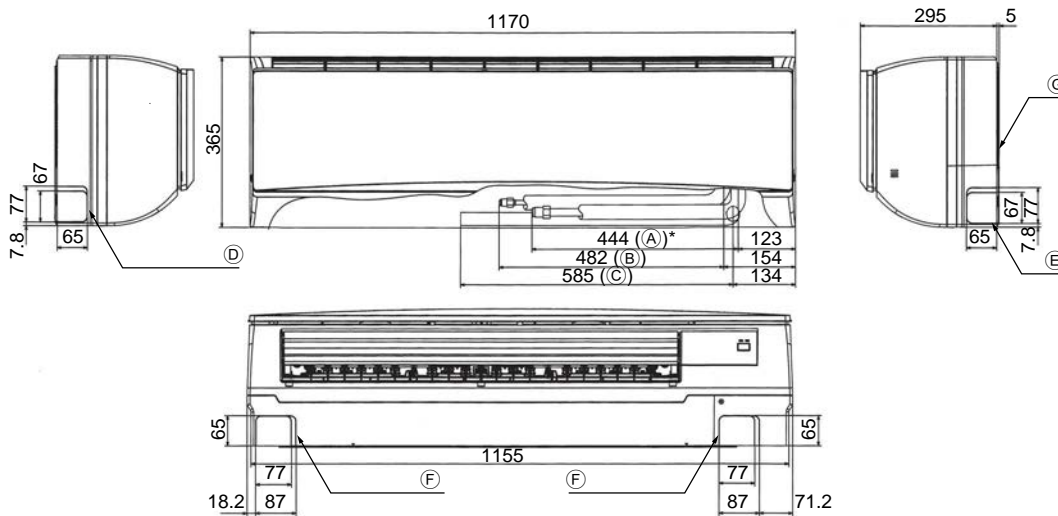

Fig. 4-2
4.3. Positioning refrigerant and drain piping (Fig. 4-2)
- (A) Gas pipe
- (B) Liquid pipe
- (C) Drain hose
- (D) Left-side piping knockout hole
- (E) Right-side piping knockout hole
- (F) Lower piping knockout hole
- (G) Mount board